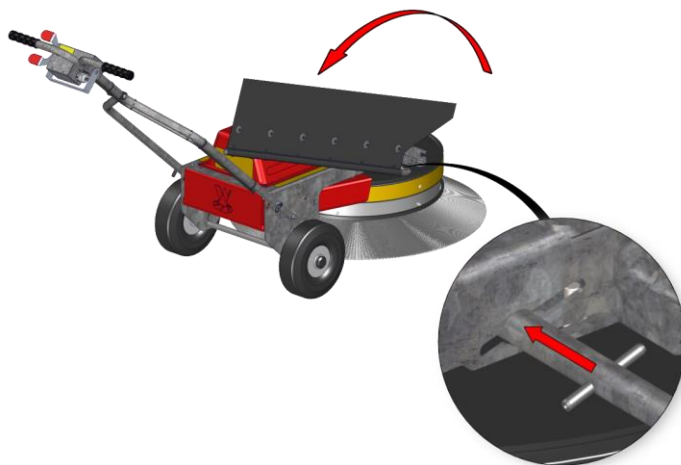

Fig. 66: Transport position of the WR 870 battery / battery PRO swath former
1. Insert the swath former into the machine's slotted hole as described in Fig. 66.